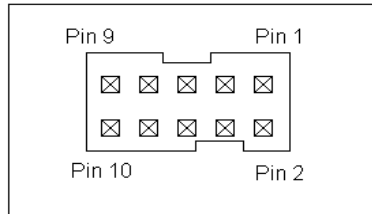

Figure 4: 10-pin IDC connector (Front View: Digi-Key part A33159-ND). Mates with Digi-Key part HKC10H-ND or similar.
- 10-pin IDC connector. *Must be 3.3 V NOT 5 V!* The input impedance is 100 Ω . The deblanking signal should be connected to pin 8 of the IDC connector (with pin 7 serving as the corresponding ground). See Figure 4 below for pinout information.